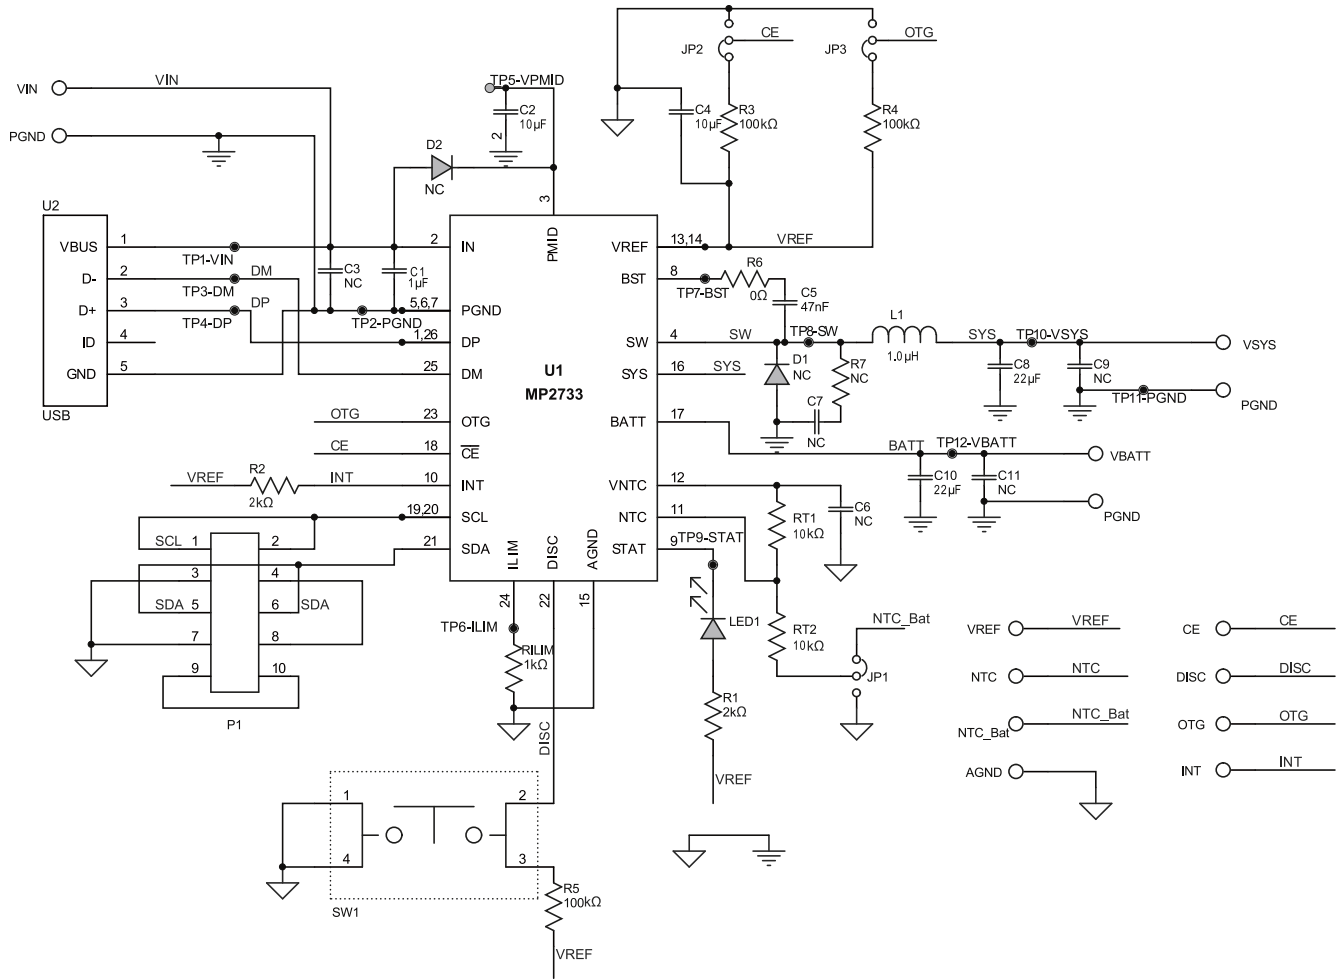

**Figure 30: Fault Monitoring Indicator Display**
- MP2733 fault monitoring (see Figure 30)